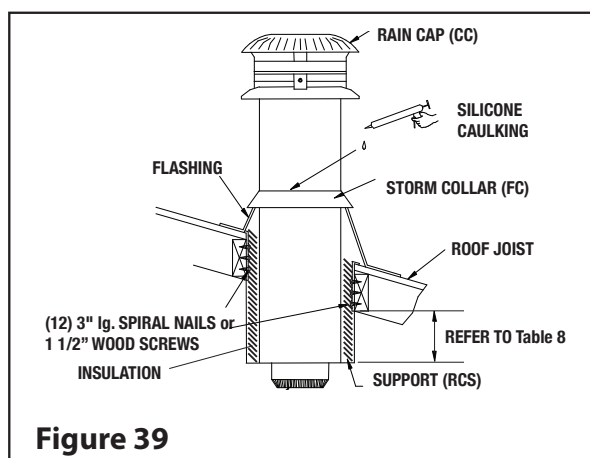

Figure 39
Step 3: Using a level, make sure the support is vertical. If the support extends above the roof, cut it flush with the top of the roof. Nail the support to the framed opening using (12)-3" spiral nails or #8 x 1 1/2" wood screws (see Figure 39).